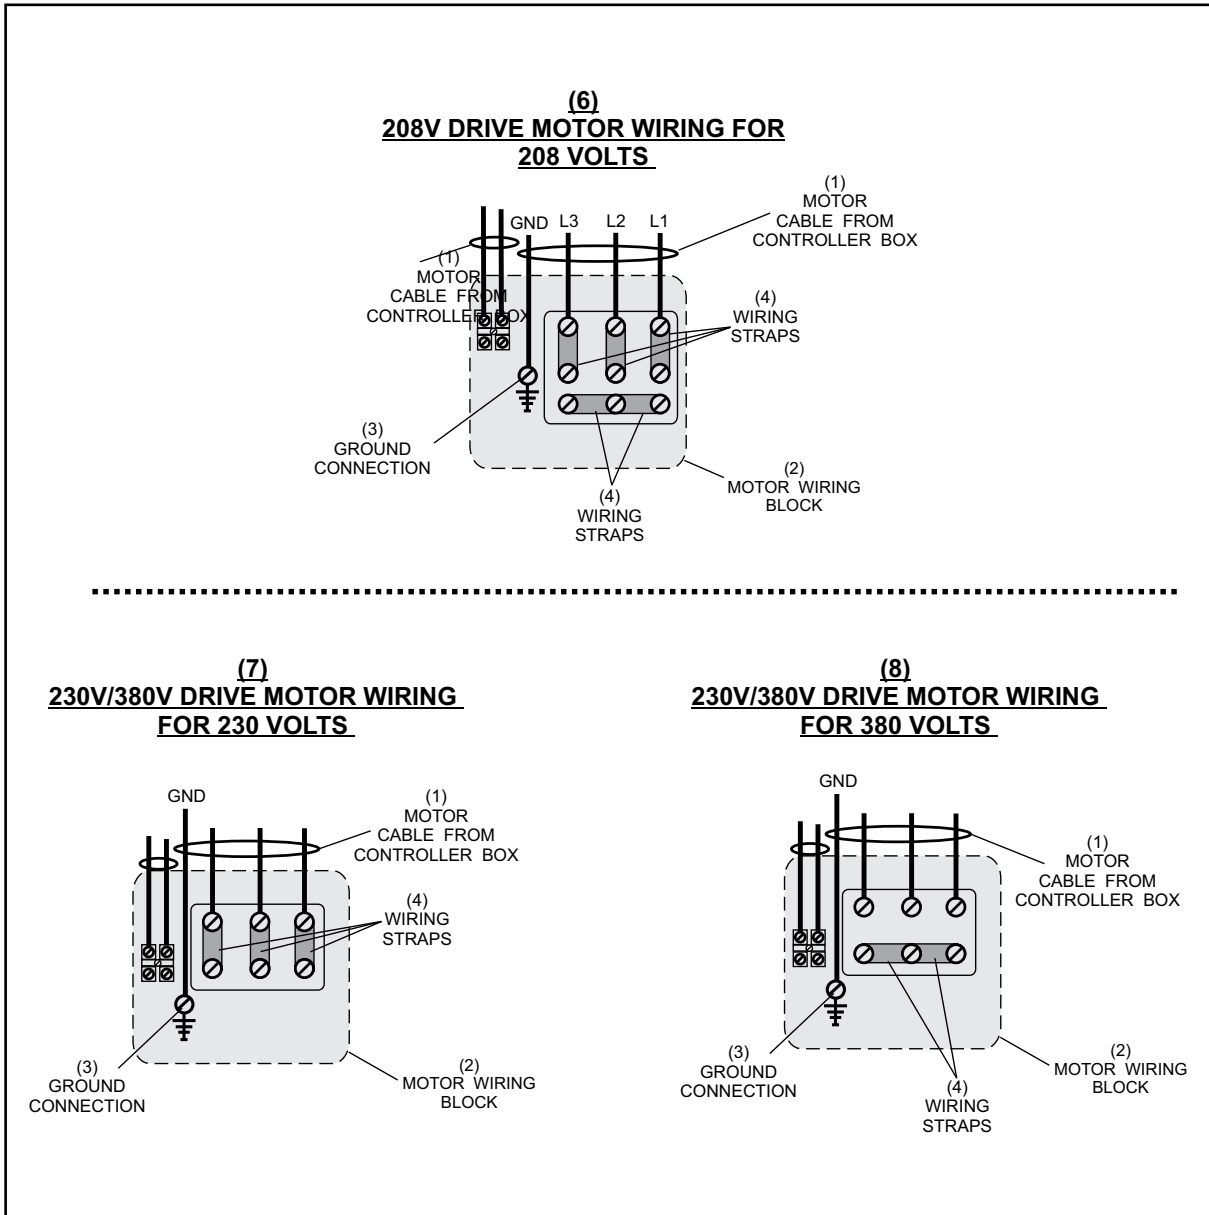

Figure 5-5. Drive Motor Wiring.
2. If the motor is running backward, swap any two of the three supply wires at the motor's terminal block. This will reverse the direction of the motor shaft. Refer to *Figure 5-5*.